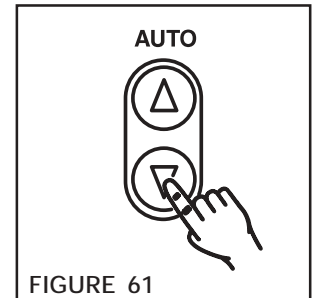

FIGURE 61
2. Press the **AUTO** Key to advance to the **FULL SCALE** function (See Figure 61). The Tension Indicator will display the current **FULL SCALE** setting.